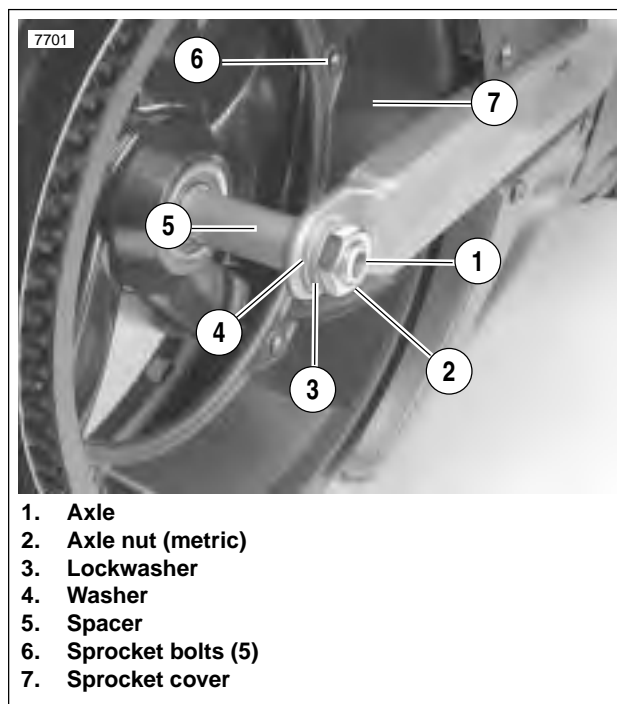

Figure 1-21. Rear Axle, Right Side
23. See Figure 1-21. Slide axle through washer, swing arm, left side spacer and wheel assembly.